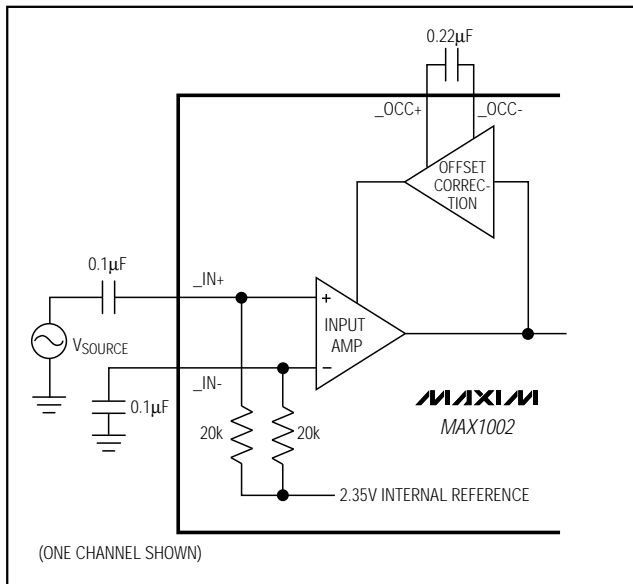

Figure 2. Single-Ended AC-Coupled Input
**Note 5:** Offset-correction compensation enabled, 0.22 $\mu$ F at Q and I compensation inputs (Figures 2, 3).
Figures 2 and 3 show single-ended and differential AC-coupled input circuits. Each of the amplifier inputs is internally biased to a 2.35V reference through a 20k $\Omega$  resistor, eliminating external DC bias circuits. A series 0.1 $\mu$ F capacitor is required at each amplifier input for AC-coupled signals.
compensation capacitor is required to set the dominant pole of the offset-correction amplifier's frequency response (Figures 2 and 3). The compensation capacitor determines the low-frequency corner of the analog input response according to the following formula: